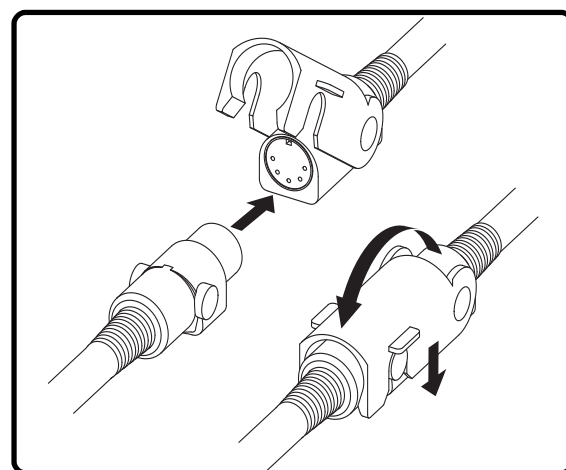

Figure 3.5 Quick-Release Connector
**Hand Control:** Contains the controls needed to operate the various functions of the riser recliner. Refer to V. "Operation" for more information. The hand control may be equipped with a quick-release connector (Fig. 3.5), which enables the user to detach the hand control from the riser recliner, disabling all functions of the hand control.